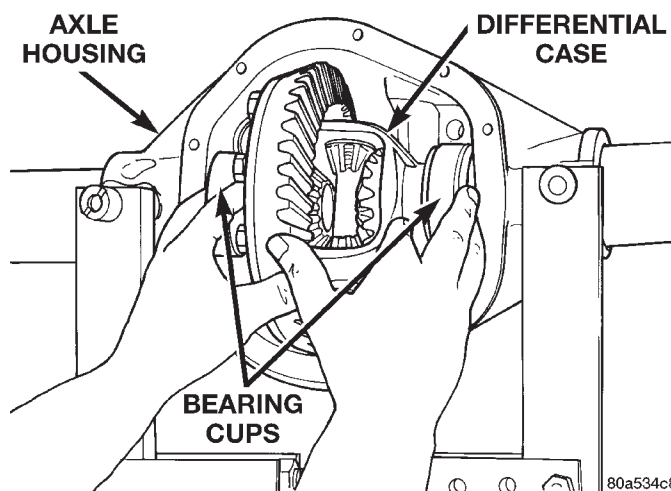

Fig. 27 Differential Case Removal
(12) Remove the differential from the housing. Ensure that the differential bearing cups remain in position on the differential bearings (Fig. 27).
(13) Mark or tag the differential bearing cups to indicate which side of the differential they were removed from.
(14) Retrieve differential case preload shims from axle housing. Mark or tag the differential case preload shims to indicate which side of the differential they were removed from.
(15) Remove spreader from housing.